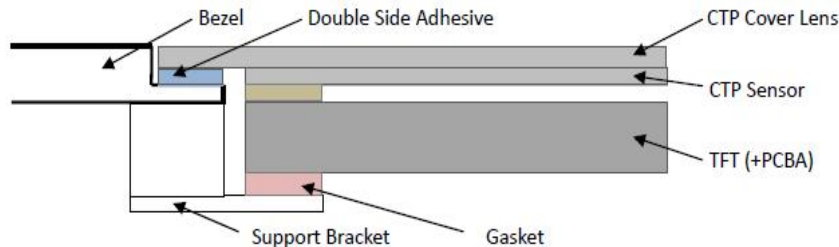

Figure 1
7.1 Surface Mounting (Figure 1)
7.1 嵌入安装 (附图 1)